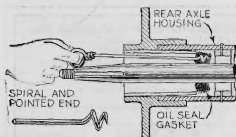

Fig. 6. This homemade corkscrew of heavy wire is useful in removing felt packing
**A** SIMPLE tool for the easy removal of felt packing can be made by bending a piece of heavy wire into the form of a corkscrew at one end, with a loop at the other end for a handle. As shown in Fig. 6, the wire end is screwed into the felt grease retainer and pulled out like the cork from a bottle.